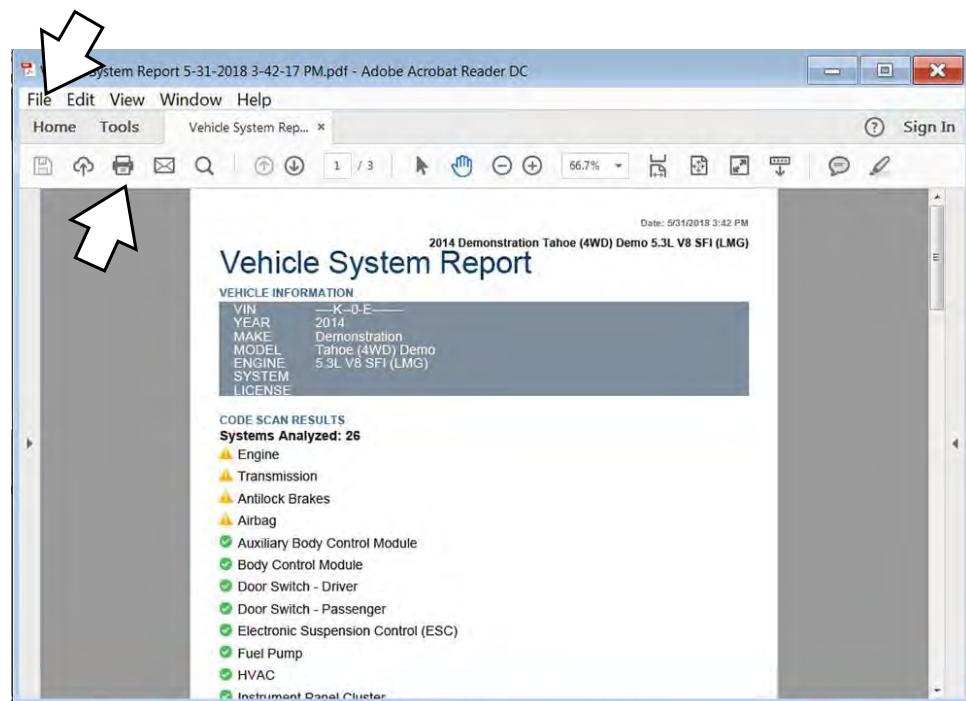

Figure 4-24
4. From the PDF viewer use the menu or toolbar print options to print the file (Figure 4-24).